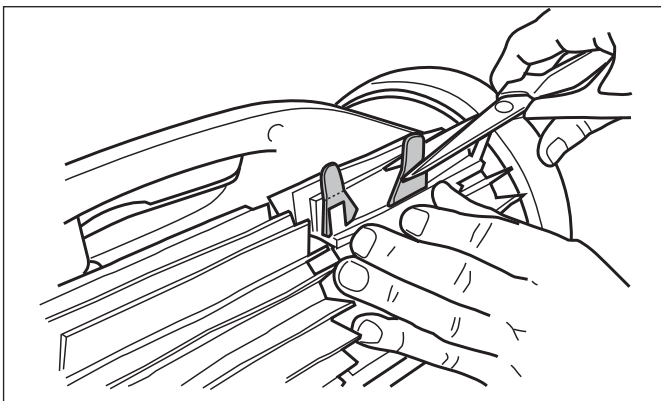

Figure 32. Cut Tabs
5. Use a pair of scissors to cut the tabs 20mm from the heel so that they are no higher than the cleaning blade (Figure 32).